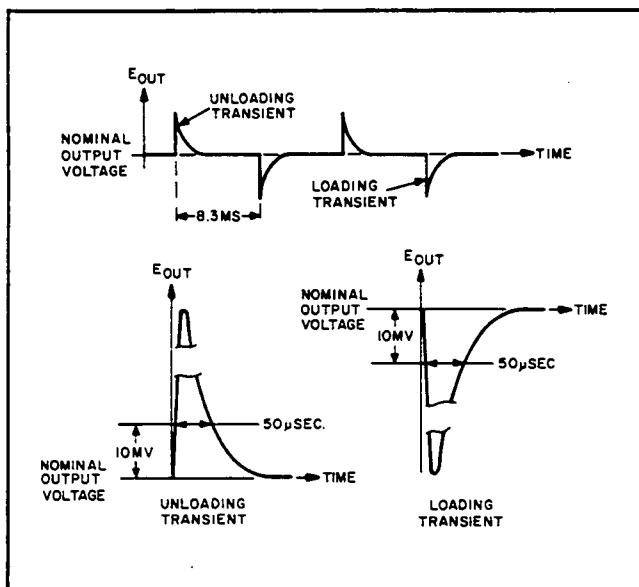

Figure 5-6. Transient Recovery Time, Waveforms
- k. Starting from the major graticule division representative of time zero, count to the right 50 μ sec and vertically 10mV. Recovery should be within these tolerances as illustrated in Figure 5-6.